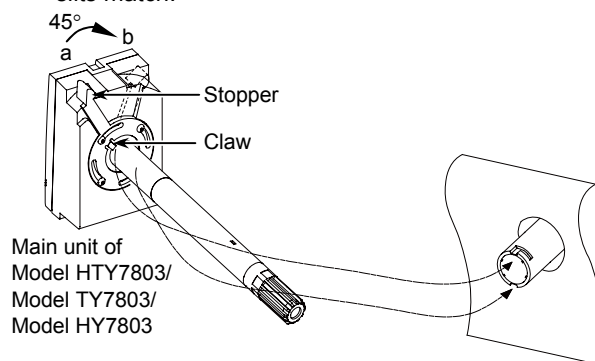

Figure 5. Mounting the main unit on the duct (with the mounting bracket)
- 4) Turn the main unit stopper (lock) 45 degree (from 'a' to 'b' shown in Fig. 5), and insert the probe of the main unit into the bracket as the main unit claws and the bracket slits match.